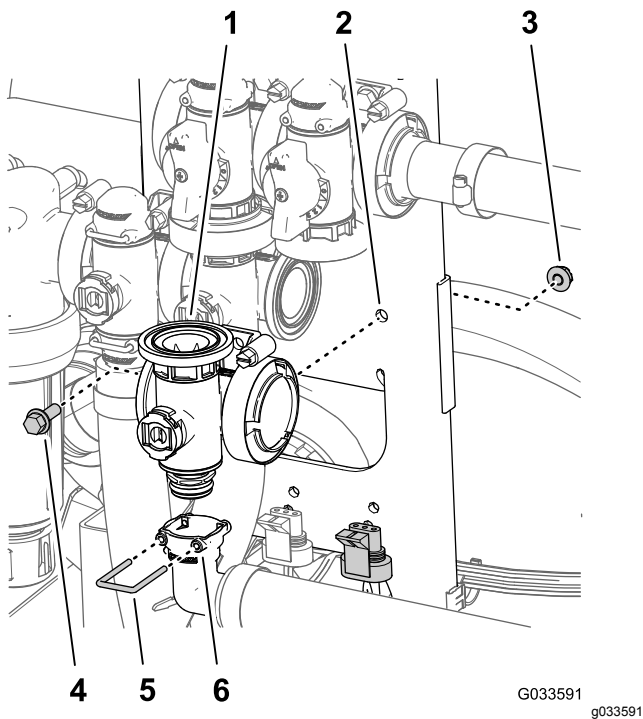

Figure 127
- Align the socket of the 90° outlet fitting onto the coupling fitting at the at the bottom of the manifold for the master-boom valve (Figure 127).
- Secure the outlet fitting coupling fitting by inserting a retainer into the socket of the outlet fitting (Figure 127).